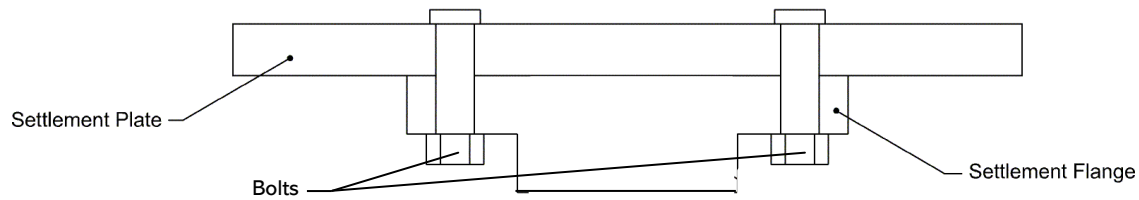

Figure 6 – Flange Attachment
- 8) Attach the settlement flange to the settlement plate using the supplied bolts (Figure 6).